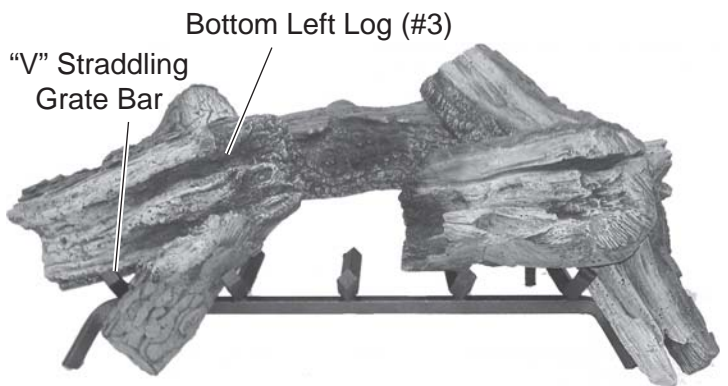

Figure 133 - Straddling “V” of Bottom Left Log (#3) on Grate Bar
5. Place Bottom Left Log #3 on grate. The “V” of the log should straddle the end grate bar. *See Figure 133.*